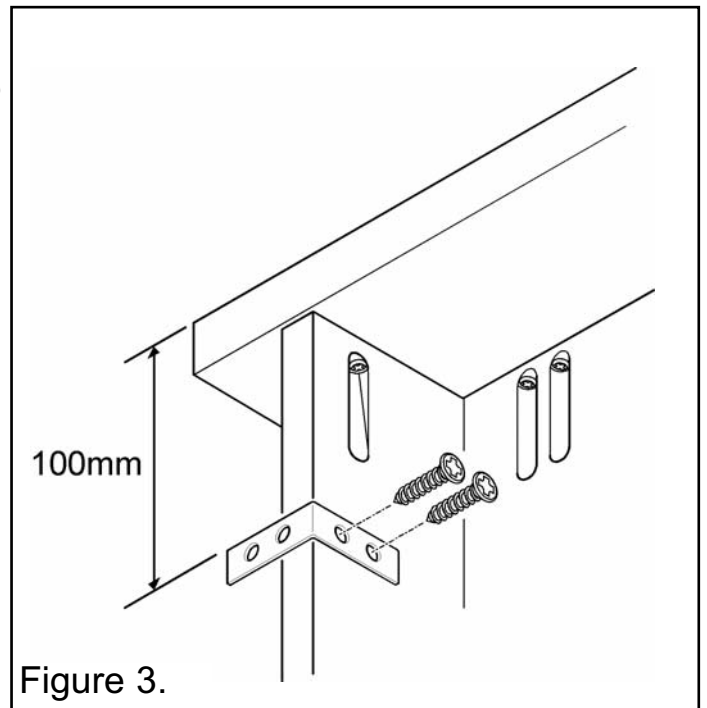

Figure 3.
- Place the wall fixing brackets (C) 100mm from the top of the surround as shown in figure 3. Secure in place using four (D) screws.